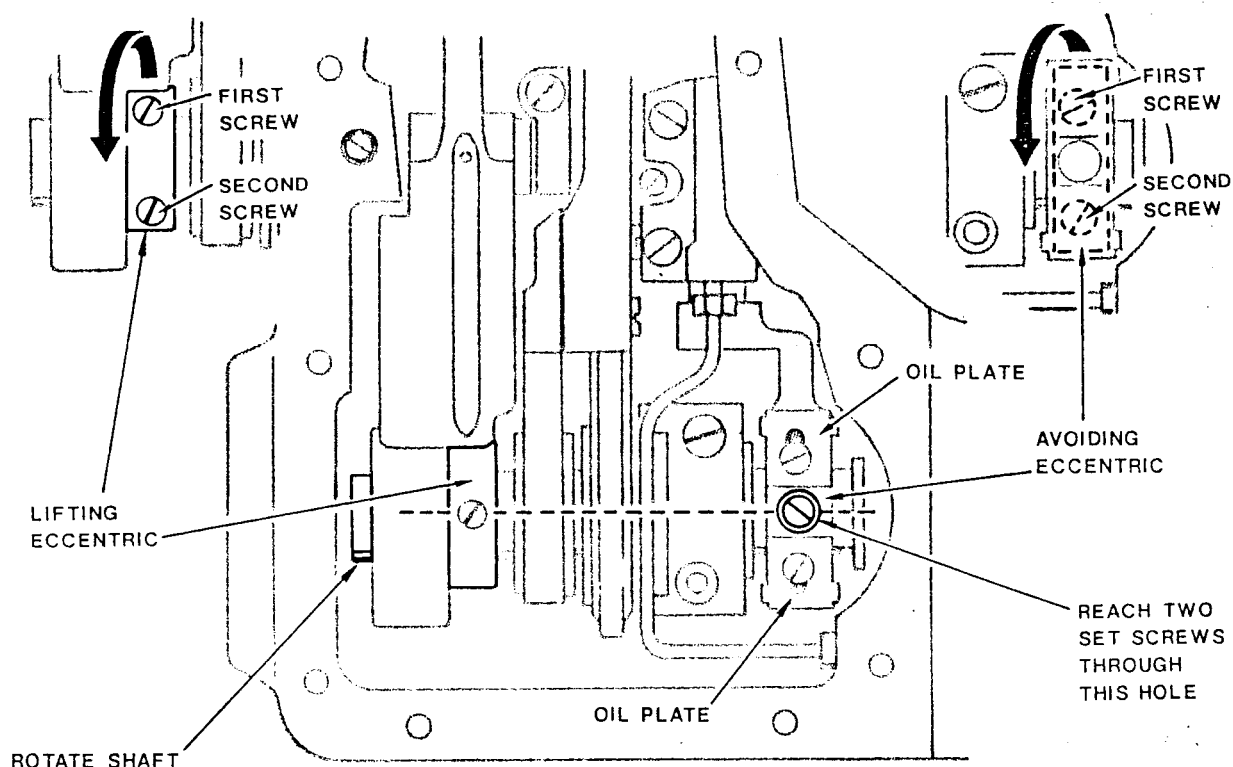

Fig. 20. Timing the Avoiding Motion
Looper avoiding motion is produced by avoiding eccentric located at right of feed eccentric on lower arm shaft, as shown in Fig. 20.
Displace the two oil cover plates to expose hole in avoiding eccentric, as shown in Fig. 20.
Turn machine pulley over toward operator until the first of the two set screws IN THE AVOIDING ECCENTRIC, Fig. 20, appears. Loosen this screw approximately 1/4 turn leaving it loose but still below surface of eccentric.
1. Make certain loopers move BEHIND needles on FORWARD LOOPER STROKE and IN FRONT OF needles on RETURN LOOPER STROKE (See Fig. 17) by rotating shaft to align second screw in avoiding eccentric with second screw in lifting eccentric (See insets shown in Fig. 20.) First screw in avoiding eccentric, when visible through hole should line up with first screw in lifting eccentric.